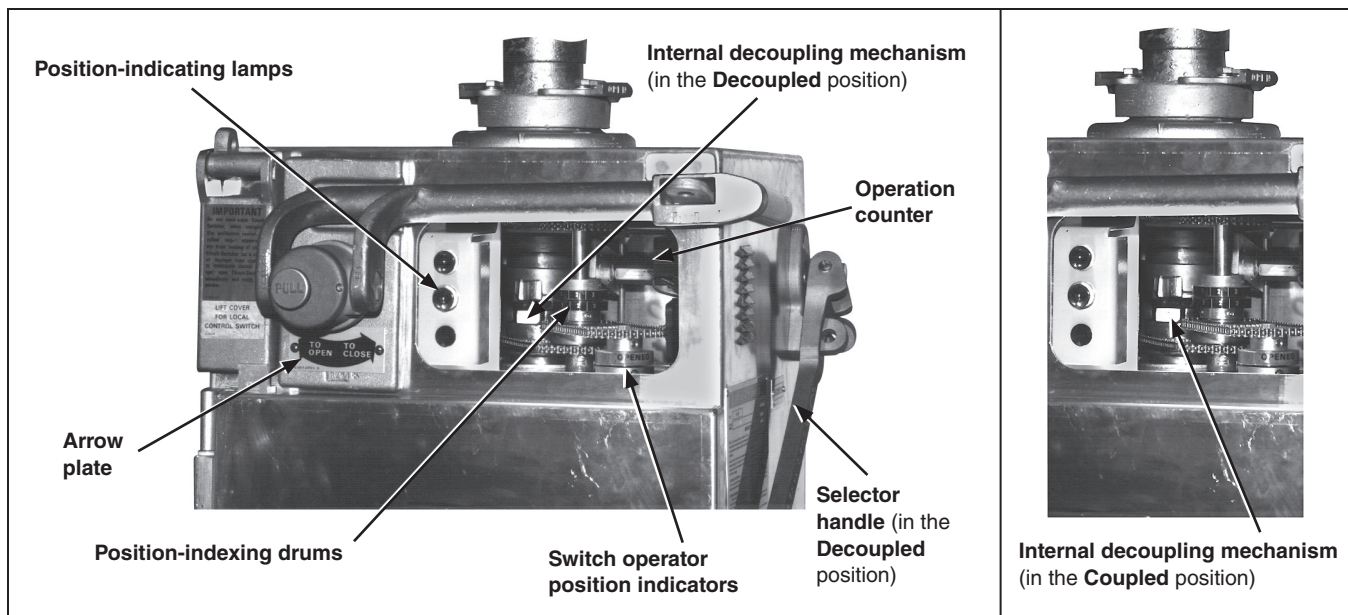

Figure 8. Views of a switch operator through the observation window.
Visual inspection through the observation window will verify whether the internal decoupling mechanism is in the **Coupled** or **Decoupled** position. See Figure 8 on page 14. The selector handle may be padlocked in either position.
The switch operator position indicator, seen through the observation window, will show when the approximate **Open** or **Closed** position has been attained. See Figure 8 on page 14. (The position indicator for the high-voltage switch, located on the output-shaft collar of the switch operator, will be aligned later.)
- STEP 2.** With the selector handle in the **Coupled** position, manually crank the switch operator to the fully **Closed** position, as indicated by the switch operator position indicator. See Figure 8 on page 14.
The cranking direction to close the high-voltage switch is indicated by an arrow plate located near the hub of the manual operating handle. See Figure 8. This direction has been predetermined from the erection drawing for the specific installation and has been factory set accordingly. The direction of rotation of the switch-operator motor has also been set at the factory.